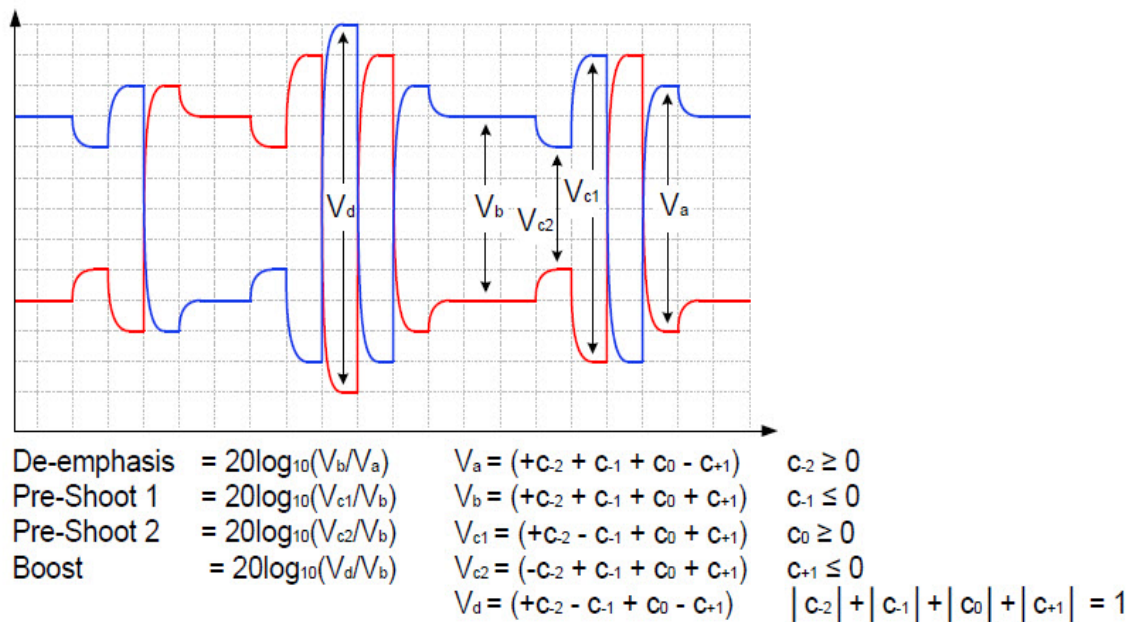

Figure 33 Waveform measurement points for preshoot and de-emphasis
64.0 GT/s PCIe signaling must support the full range of presets given in Table 8-2 (PCIe Base Specification Revision 6.0). Presets are defined in terms of ratios, relating the pre-cursor and post-cursor equalization voltages. The pre-cursor (V_c) is referred to as pre-shoot, while the post-cursor (V_b) is referred to as de-emphasis. This convention permits the specification to retain the existing 2.5 GT/s and 5.0 GT/s definitions for Tx equalization, where only de-emphasis is defined, and it allows preshoot and de-emphasis to be defined such that each is independent of the other. The tolerances in Table 8-1 (PCIe Base Specification Revision 6.0) also apply to 2.5 and 5.0 GT/s de-emphasis. The maximum swing, V_d , is also shown to illustrate that, when both c_{+1} and c_{-1} are nonzero, the swing of V_a does not reach the maximum as defined by V_d . The high frequency nature of PCIe signaling makes measurement of single UI pulse heights impractical. Consequently all amplitude measurements are made with low frequency waveforms as shown in Figure 33.
- 13 Computes their equalization voltages by using Matlab, and then calculates equalization ratios by using the formulae stated in Figure 33 (Figure 8-6 of the spec).